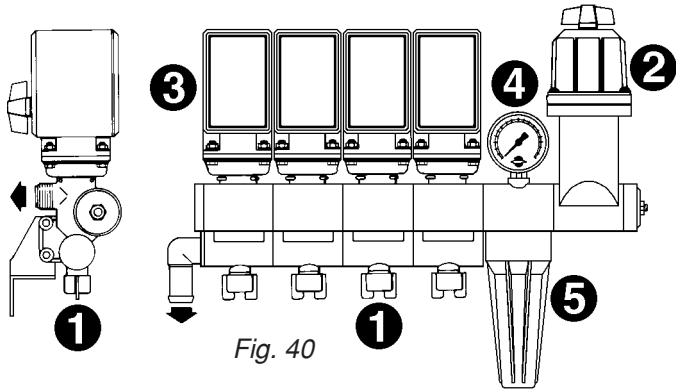

Fig. 40
5. Hold pressure regulating switch **(C -)** (Fig. 41) until handle **(3)** (Fig. 40) stops rotating, this will be the "minimum pressure" setting.
8. Turn the adjusting screw **(1)** (Fig. 41) until the control unit pressure gauge **(7)** (Fig. 40) again shows the same pressure as set in step 6 above. (Turn the screw clockwise for higher pressure, counterclockwise for lower pressure).